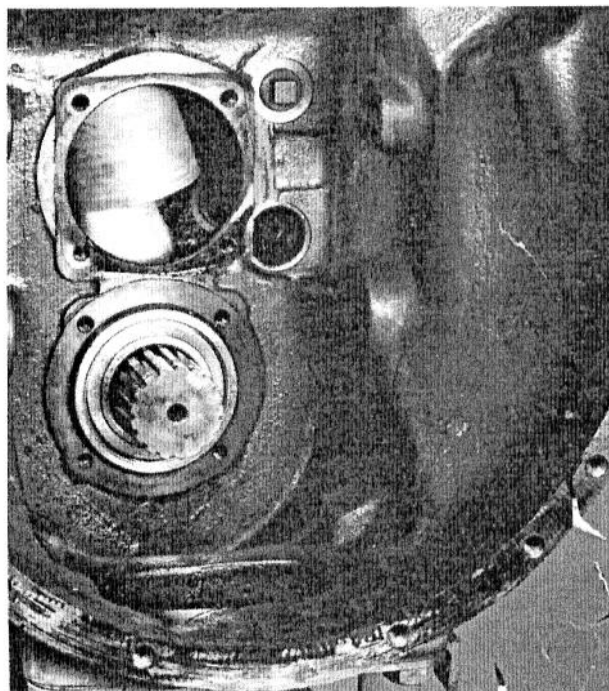

Fig. 6 - Removing Countershaft and Front Bearing
- e. Carefully slide shaft, with front bearing, forward out of the gears and transmission housing, as shown in Fig. 6.